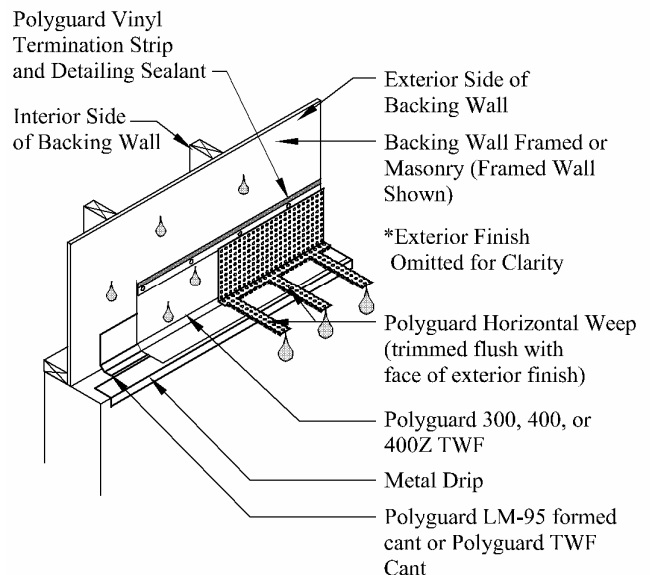
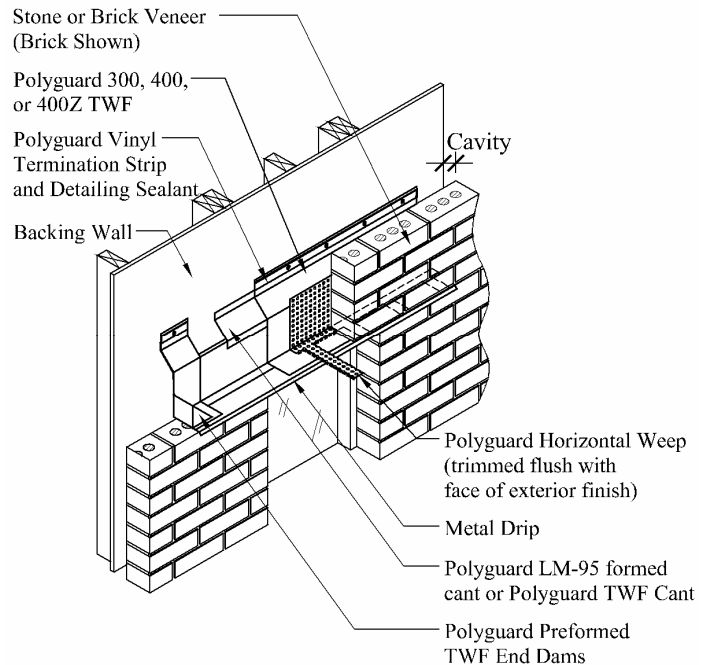

Fig.1
Fig. 2
4. Fig.1 Form a cant along the vertical to horizontal intersection. Use either **Polyguard LM-95**, or **Polyguard TWF Cants**, TWF Cant shown. See Fig. 2 for gap conditions